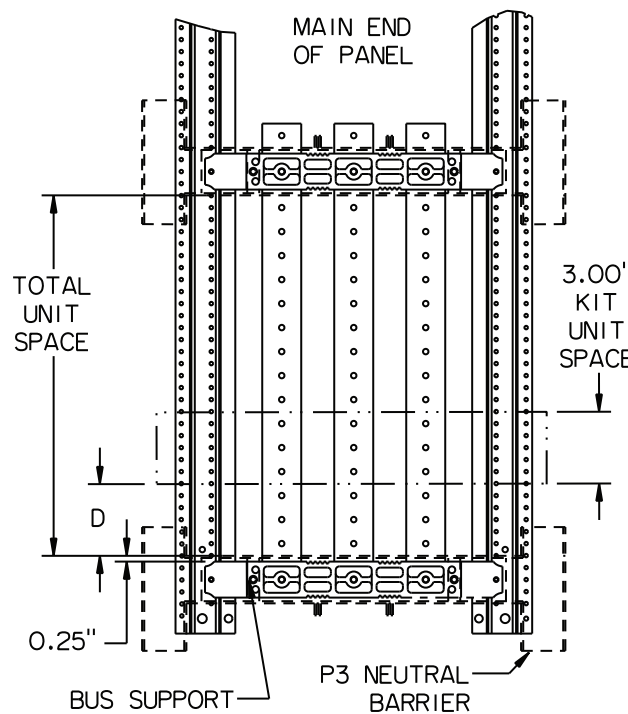

Figure 1
3. Refer to Figure 1
4. This kit requires 3" of unit space. Determine the location where the kit is to be installed. The kit positioning dimension D in Fig. 1 must be a multiple of 3" (e.g.: 0", 3", 6", 9", etc.). These measurements can be taken directly from a P3 neutral barrier. For measurements taken from a P2 or P3 bus support, add 0.25" to D (e.g.: 0.25", 3.25", 6.25", 9.25", etc.).